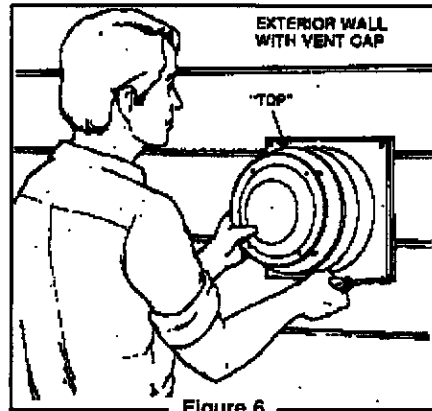

Figure 6
Important: The top of the vent cap is embossed "TOP". Install it in the correct position to prevent water from entering the wall. Level the vent cap and attach it to the outside wall with four (4) #8 roundheaded (long) screws (Figure 6).